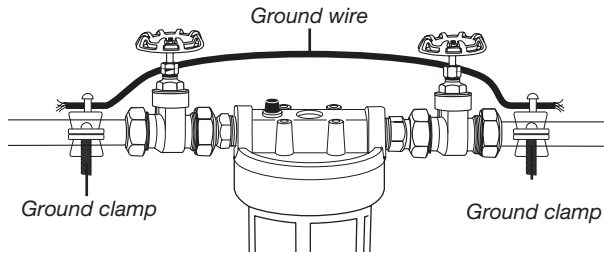

Figure 3
5. Install Whirlpool Grounding Kit WHKF-GRND (see Figure 3) in metal water piping systems.